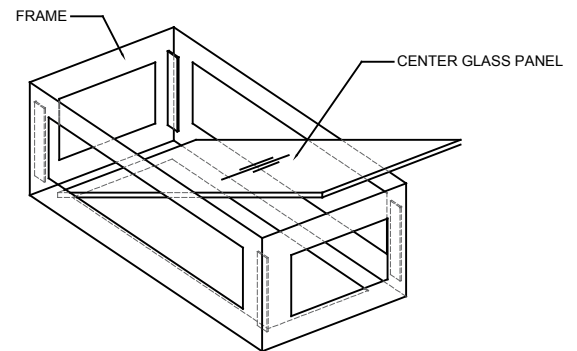

FIGURE-03
6. Carefully insert the Center Glass Panel unto the frame. (See Figure-03)